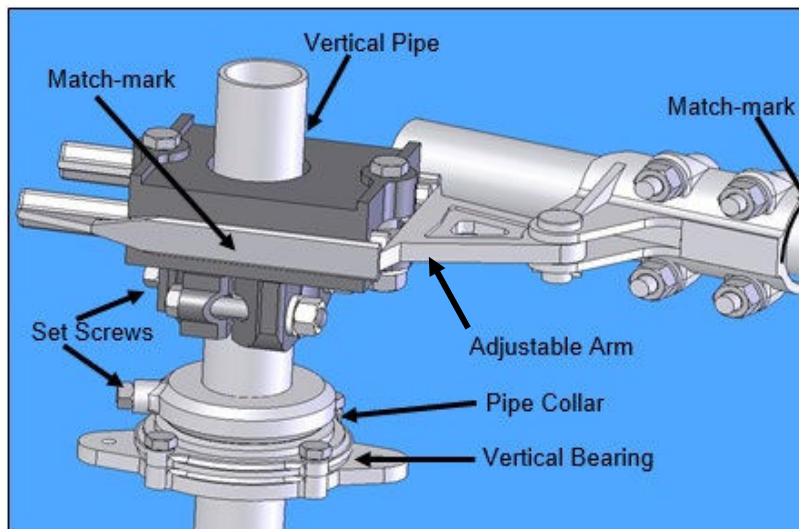

Figure 15: Typical Operating Arrangement
- 5.6. Refer to the Operating Mechanism drawing and install all mounting brackets, bearings, bushings, pipe clevises, switch operating device, adjustable arm, reach rod, and other necessary components. Refer to **Figure 15**. Do not connect the interphase pipe at this time.
- 6.1. The operating mechanism is intended to fully open and fully close the disconnect switch by rotating the vertical operating pipe $180^{\circ} \pm$ using an operator (manual or electrical). The interphase pipe controls the individual operation of each switch pole, using a push/pull control. The reach rod translates the motion of the vertical operating pipe to the interphase linkage. The adjustable arm (**Figure 15**) controls the total amount of switch operation available.